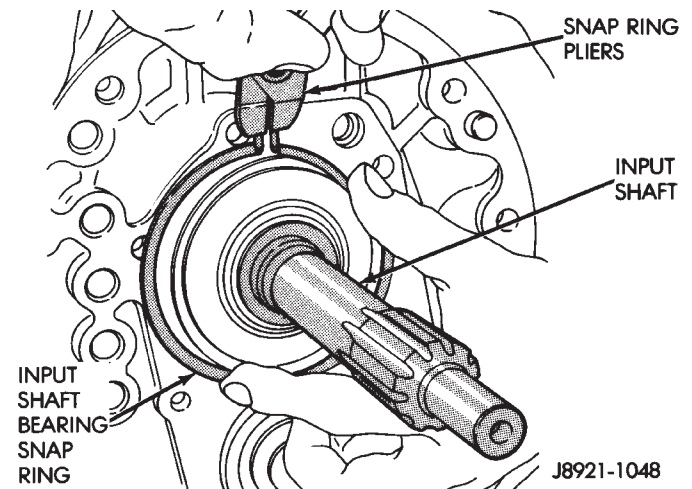

Fig. 32 Remove Input Shaft Bearing Snap-ring ASSEMBLY
- (21) Remove input shaft bearing snap-ring (Fig. 32).